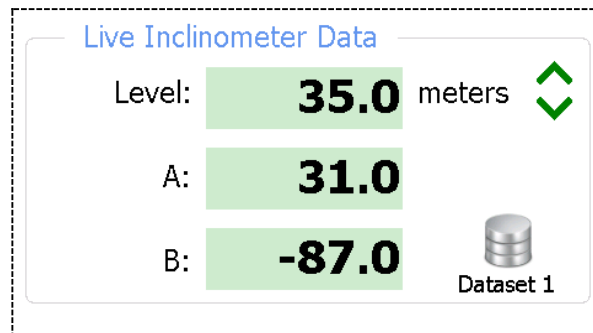

Figure 37 - Viewing Inclinator Data
- View Compass Data** When a compass survey is enabled, this menu item is enabled and allows the compass heading to be displayed in place of inclinometer "A" data. This item toggles between "View Compass Data" and "View Inclinometer Data" depending on that data currently being viewed (see Figures 37 and 38). This menu item is only shown if a compass probe is detected. See Appendix H for a complete description of the Compass and Spiral Probes.